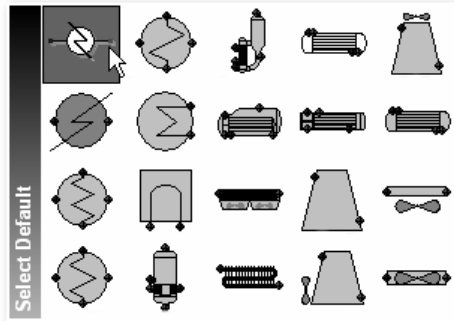

Figure 11-04: Switching to the single-sided heat exchanger icon
- Return to the All UnitOps palette, and again click the **Heat Exchanger** icon's black triangle. To switch from the two-sided model to a single-sided model, you'll need to select the appropriate icon (see Figure 11-04) from the Heat Exchanger sub-palette.